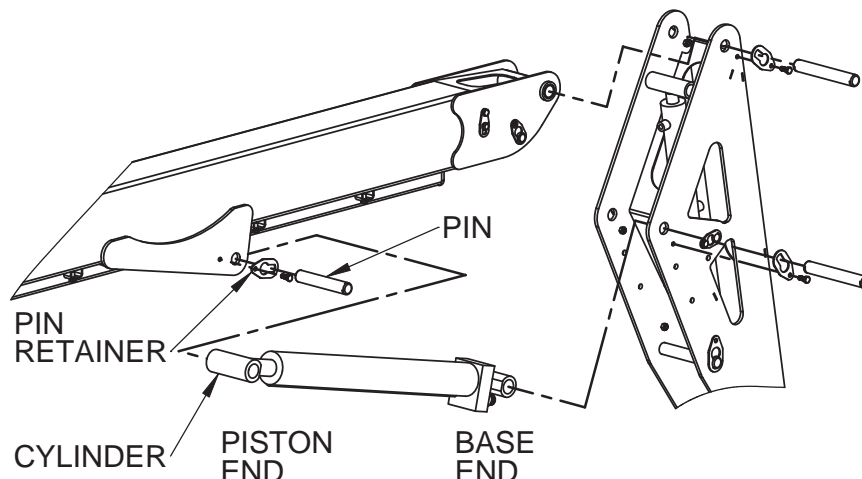

**Figure 5-3. Location of Manual Lowering Valves for Lift Cylinder Replacement**
45XA / HLA 16 PX Aerial Work Platforms have three (3) lift cylinders, use the following procedure to remove and replace faulty or damaged hydraulic cylinders. Refer to Figure 5-3 for the location of these cylinders.